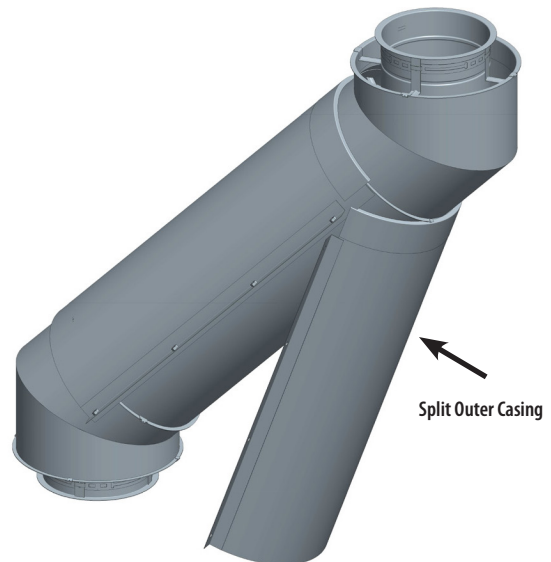

Figure 39 - Step 12- Install the Split Outer Casing
Step 11 - Install the split outer casing that covers from the outer wall of the inlet end section to the outerwall of the outlet end section. See **Figure 39**